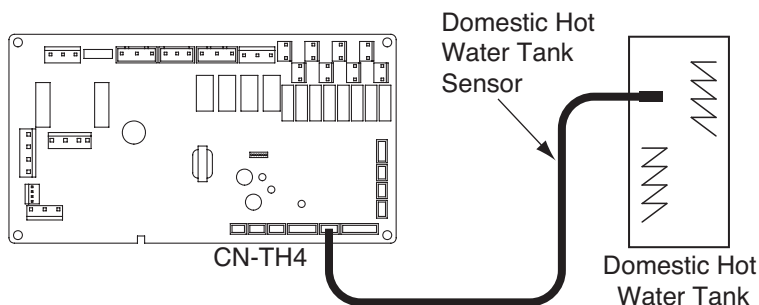

Fig. 1
Step 5. Find Domestic Hot Water Tank sensor. Plug it to 'CN_TH4' (Red Connector) of the main PCB assembly 1. The sensor should be mounted correctly to the sensor hole of Domestic Hot Water Tank. (figure. 1)